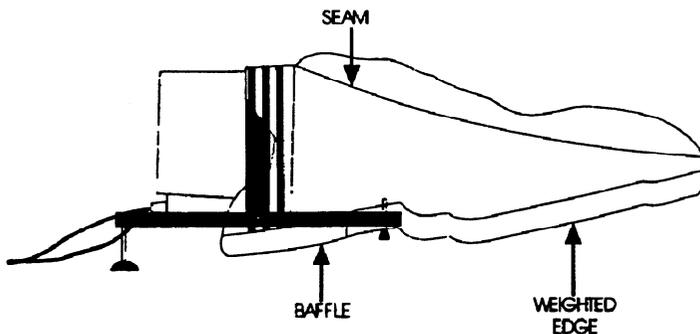

Figure 2-77. Driver's Monitor Light Shroud
2.4.10.3 Driver's Monitor Light Shroud Installation. Install the Driver's monitor light shroud, shown in Figure 2-77, as follows.